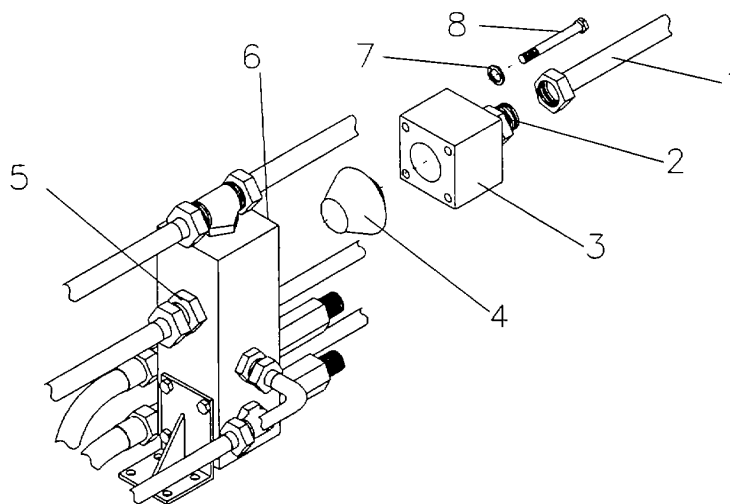

Figure 6-2. Thermal Control Module.
a. Removal. Refer to figure 6-2.
- 1) Disconnect tube (1) from adapter (2)
- 2) Remove screws (8), lockwashers (7) and connection block (3) from the hydraulic control manifold (6)
- 3) Remove thermal control module (4)
b. Installation. Refer to figure 6-2.